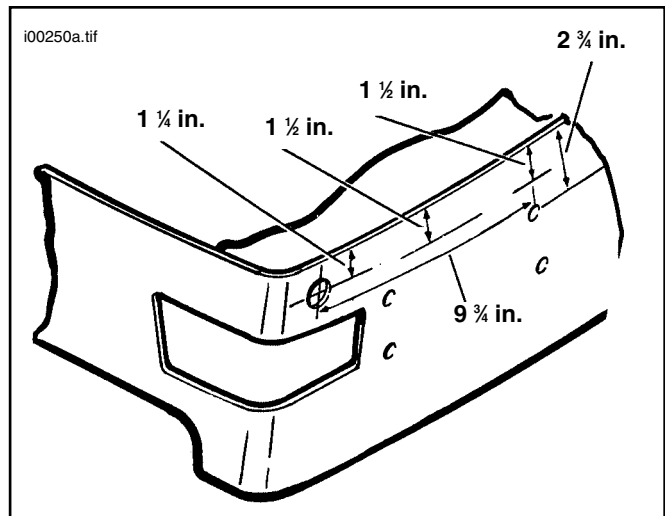

Figure 3. Centering and Squaring Lamp Housing
9. See Figure 3. Measure downward from lip at top of tour-pak a distance of 2-3/4 in. at centerline. Mark a reference point. Measure down 1-1/2 in. from lip and make a horizontal line at three places, one at center, one 6 in. left of center, and one 6 in. right of center.